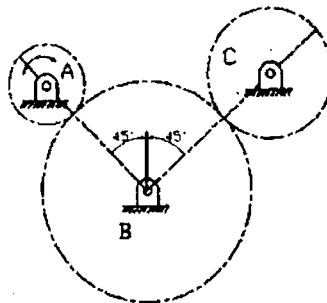

Fig. 1
- (b) Design a chain drive to transmit 6 kw at 900 rpm of a sprocket pinion. Speed reduction is 2:5:1. Driving motor is mounted on an adjustable base. Assume that load is steady, drive is horizontal and service is 16 hours/day. (16)
12. (a) The pitch circles of a train of spur gears are shown in Fig. 1. Gear A receives 3.5 kW power at 700 rpm through its shaft and rotates in clockwise direction. Gear B is the idler gear while gear C is the driven gear. The number of teeth on gears A, B and C are 30, 60 and 40 respectively, while the module is 5 mm. Calculate the torque on each gear shaft; and the components of gear tooth forces.